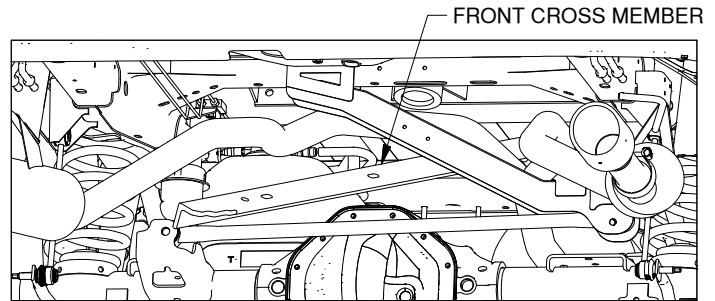
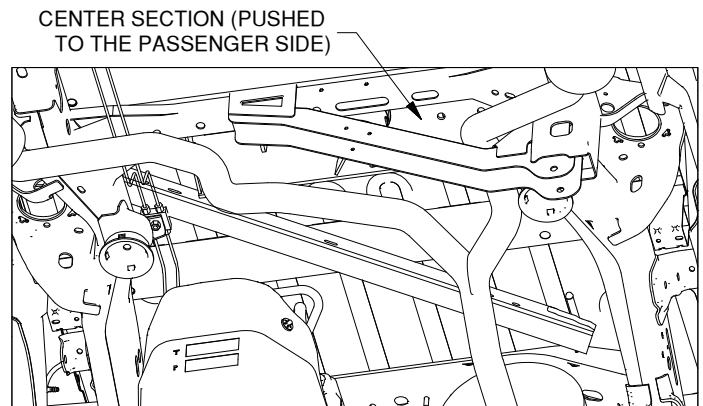

Figure C3: View looking under truck bed toward the cab.
Figure C4: View looking up under truck bed. (Axle not shown)
3. **Position the front cross member (dual and single exhaust).** The front cross member is the 2" x 2-1/2" angle with five holes in one flange. While holding the front cross member in an inverted "V" with the flange with holes in it towards the passenger side of the truck, move the cross member over the driver side of the rear axle, as shown in Figure C3. Lift the trailing end toward the rear of the truck over the driver side frame rail, see Figure C4. Slide the cross member toward the driver side until the leading end of the cross member can be placed on top of the passenger side frame rail. It may be necessary to adjust the wiring in the driver side wheel well to give the cross member clearance on the frame. When the cross member is spanning both frame rails, push the front cross member forward to make room to install the center.